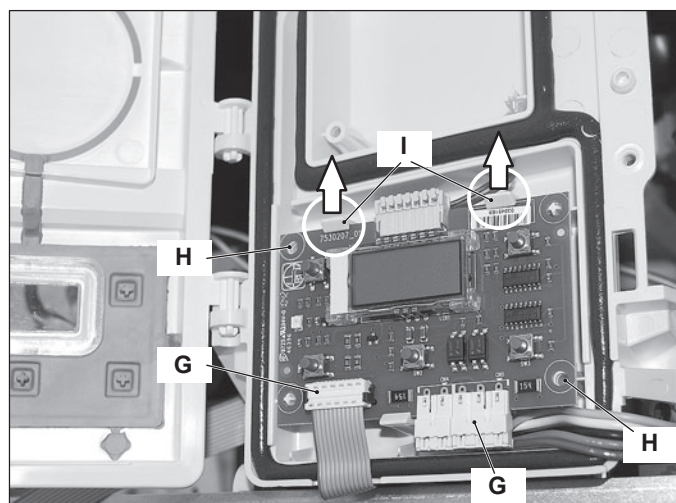

Figure 10.3
- 3 Remove all the wiring G connected to the *Control panel electronic p.c.b.* (Figure 10.3).
- 5 Delicately flex the hooks I in the directions indicated (Figure 10.3) in order to release the circuit from the box.